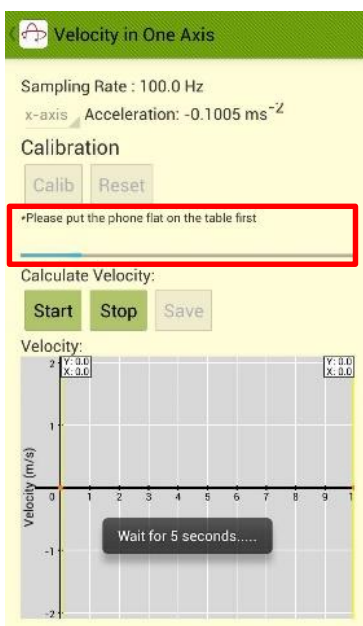

Fig 5.3
- Place the phone on a flat surface and press “Calib”. Wait for 5 seconds to calibrate the error in the axis (Fig 5.3). The measurement cannot be started before calibration.